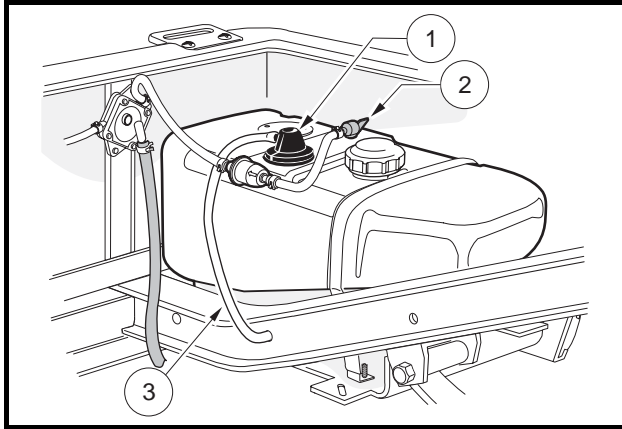

Figure 27 Fuel Tank
- If the vehicle has an all-weather enclosure installed, be sure the fuel tank is properly vented as shown (Figure 27).